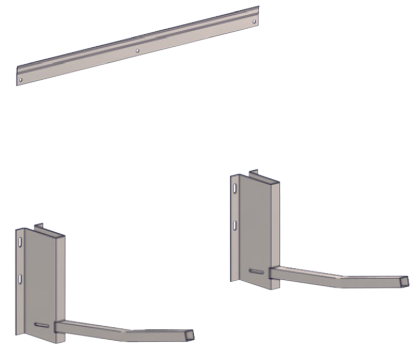
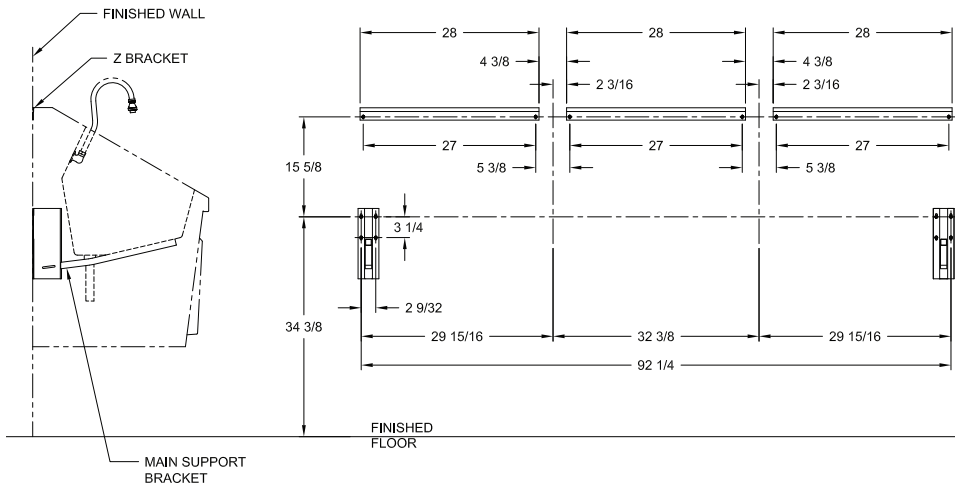

Fig. 5: Z brackets
Fig. 19: Z bracket mount locations - SS96
- A. "Z" Brackets for mounting the sink to the wall come with the sink (Fig. 5). Recommended mounting specifications for Z Brackets are shown in Fig. 13 (SS32), Fig. 16 (SS64), and Fig. 19 (SS96) on page 9 through page 11.